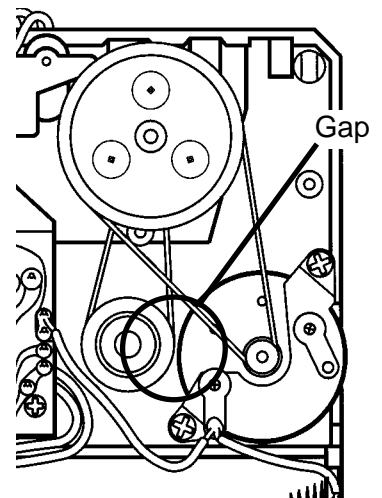

**Figure 5-6**
CONNECTING THE PC BOARD - See Figure 5-6. The wires connected to the PC board should be positioned so that they do not touch the pulleys or drive belts and do not interfere with the placement of the batteries.
- ☐ Fasten the PC board to the tape deck using three 7/32" screws as shown in Figure 5-6. Be sure the two wires from the ON switch are accessible at the right of the PC board.
- ☐ Insert the (+) and (-) battery terminals into their slots as shown in Figure 5-6.
- ☐ Solder the 1.6" red wire to the (+) battery terminal and the PC board as shown in Figure 5-6.
- ☐ Cut a black 2.8" piece of wire into two 1.4" pieces. Strip 1/8" of insulation off the new end of both wires. Solder one end of both 1.4" wires to the motor case terminal as shown in Figure 5-6.
- ☐ Solder the other end of one of the wires on the motor case terminal to the PC board as shown in Figure 5-6.
- ☐ Solder the other end of the remaining 1.4" wire on the motor case terminal to the (–) battery terminal as shown in Figure 5-6.
- ☐ Solder one end of the red 2.8" wires from the ON switch to point A on the PC board as shown in Figure 5-6.
- ☐ Solder the other red 2.8" wire from the ON switch and the red wire from the motor to point B on the PC board as shown in Figure 5-6.
- ☐ Solder the black wire from the motor to point C on the PC board as shown in Figure 5-6.
1. Insert two "AA" size batteries into the battery compartment. See Figure 5-6 for polarity.
- c) Check that the motor is wired to the PC board as shown in Figure 5-6.
- b) Check that all other wires are wired to the PC board as shown in Figure 5-6.